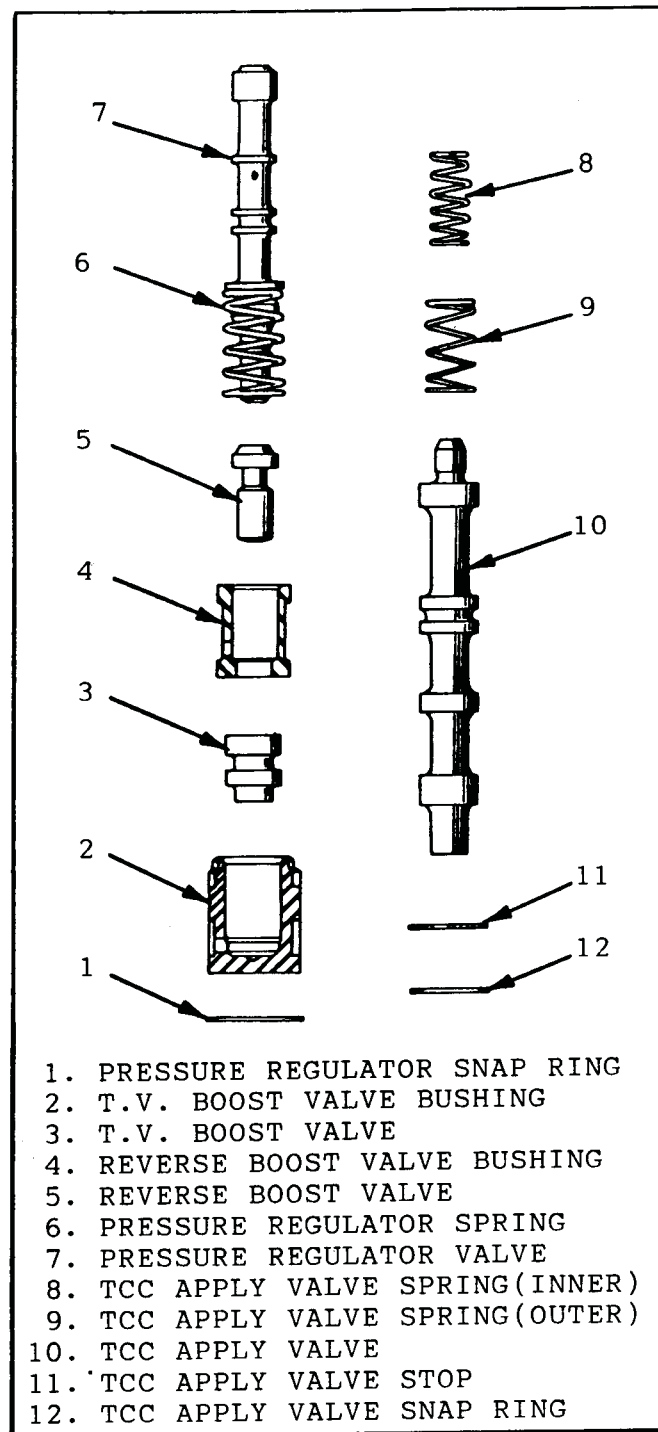

Figure 99
20. Install converter clutch valve into the same bore, with the valve installed as shown in Figure 99.
27. Install reverse boost valve into the reverse boost valve bushing "Exactly" as shown in Figure 99, and retain with petrolatum.
28. Install reverse boost assembly into PRV bore on top of spring as shown in Figure 99.
29. Install T.V. boost valve into T.V. boost valve bushing "Exactly" as shown in Figure 99, and retain with petrolatum.
30. Install T.V. boost assembly into PRV bore on top of reverse boost assembly as shown in Figure 99.
NOTE: Pressure regulator valve train, and converter clutch valve train, MUST be installed "EXACTLY" as shown in Figure 99, or damage to the transmission could result.